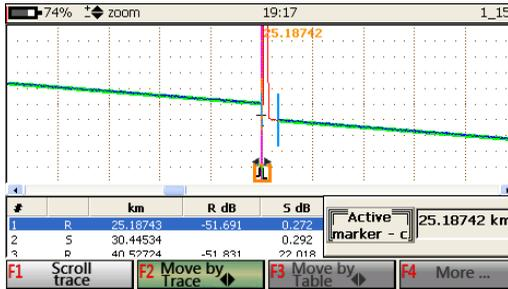

Figure 7.38
7.6.17.3 In order to move the event, press [F4 More...], then select [Move event]. The window shown in Figure 7.38 then appears on screen.